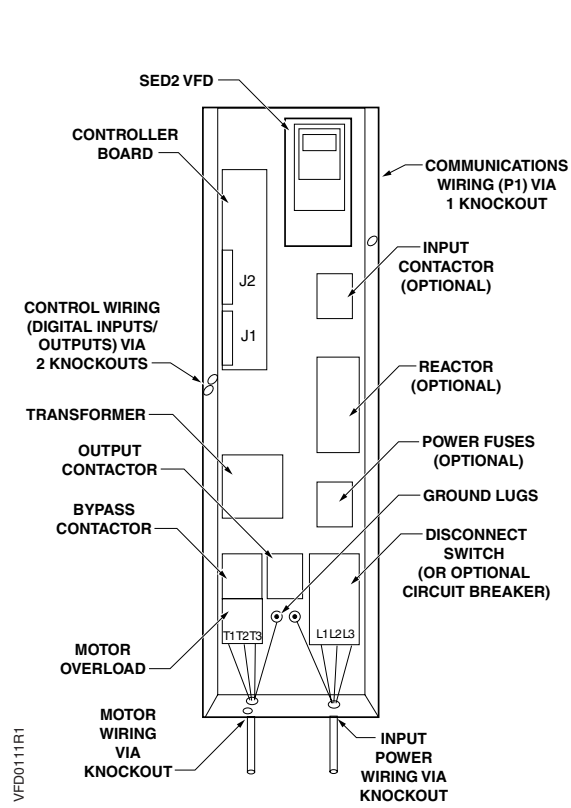

Figure 7. Routing of Power and Control Wiring for Frame Sizes A and B.
1. Route shielded twisted pair (recommended wire type) cable, 24 gauge minimum *control wiring* in conduit through knockout and into housing (Figures 7 through 9). Connect control wiring per job-specific drawings.
2. If applicable, route *communications wiring (P1)* in conduit through knockout and into housing (Figures 7 through 9). Continue to route communications wiring to VFD and terminate per *SED2 VFD Operation & Maintenance Manual*.
3. Route motor wiring in conduit through knockout and into housing (Figures 7 through 9). Connect motor wiring to motor overload and ground lug. See Tables 1 through 4 for wire sizes and tightening torques.
4. Route input power wiring in conduit through knockout and into housing (Figures 7 through 9). Connect input power wiring to disconnect switch and ground lug or to circuit breaker and ground lug. See Tables 1 through 4 for wire sizes and tightening torques.